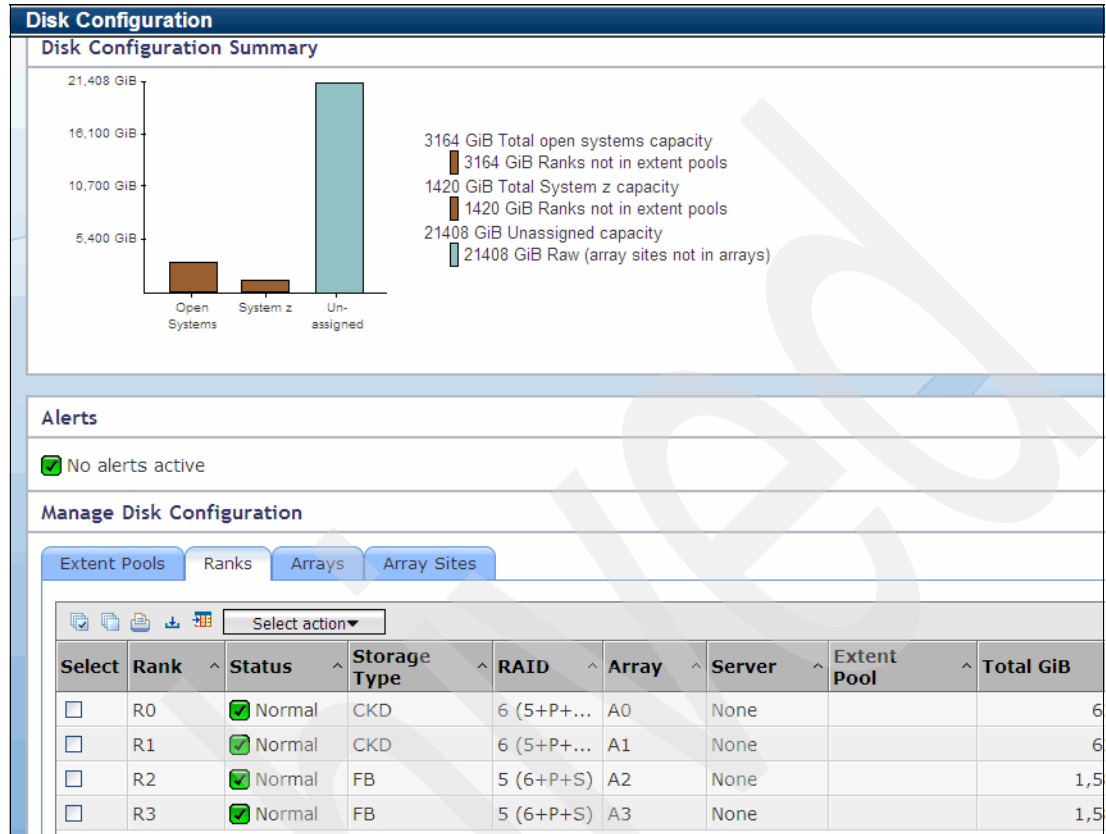

Figure 13-35 List of all created ranks
- Once the task is completed, go back to Disk Configuration and, under the Rank tab, check the list of newly created ranks (see Figure 13-35).